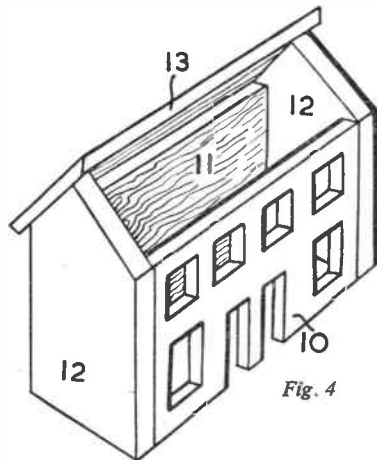

Fig. 4
The cottages are made up as shown in Fig. 4, the chimney pieces (14) being added after the roof has been glued in place. Once again add acetate sheeting behind the windows.
A typical Clipper type of skylight shown in Fig. 4 is easily modelled from a small block of wood. In the Hobbies design the block given should be shaped and painted as in one of the two styles shown.